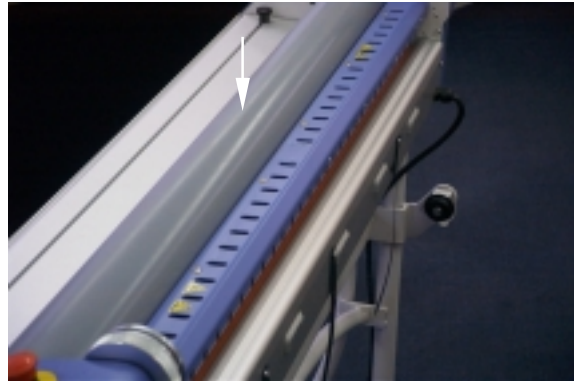

fig. 32
4. Measure the temperature on top of the roller, close to the middle of the machine. See figure 32, white arrow.